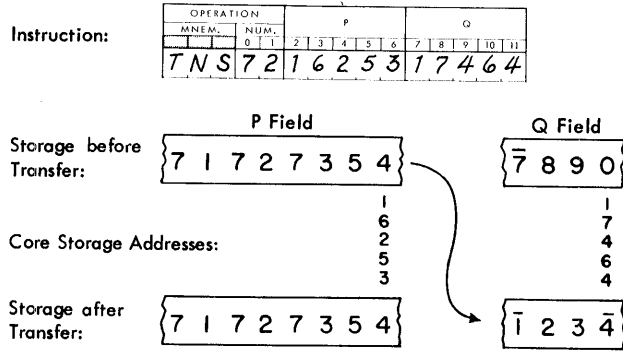

Figure 35. Transfer Numeric Strip
*Description.* This instruction converts numeric data that is in the two-digit alphameric mode into single-digit numerical data, with sign. The rightmost position of the alphameric field is specified by the P address of the instruction which must always be an *odd-numbered* core storage location. The rightmost position of the field that is to contain numeric data is specified by the Q address. Transmission of the numerical digits from the odd-numbered positions of the alphameric field proceeds from the position addressed, through successively lower-numbered core storage locations, until a flag bit is sensed in other than the units position of the numeric field. The flag bit must be placed in the Q field prior to this instruction to define the leftmost position. It remains unchanged by the instruction. For example, the numeric digits 4, 3, 2, and 1 in Figure 35 are stripped